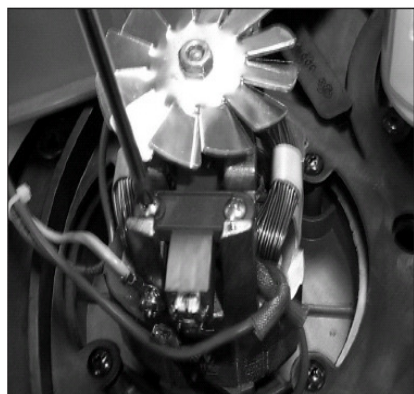

Fig. 3
5. Remove the carbon brush assembly by removing the 2 screws that attach it to the vac motor. **See Fig.3**